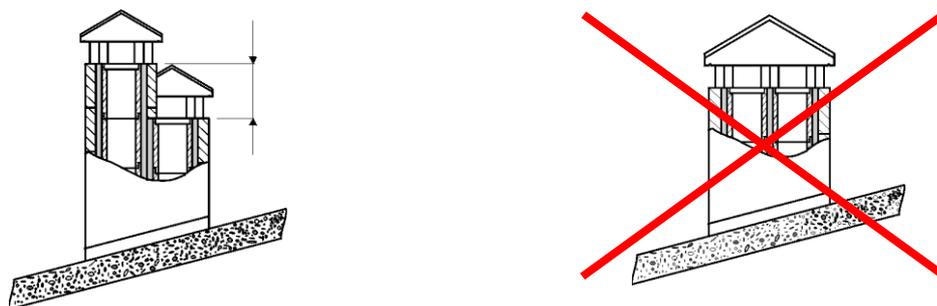

Figure 8. Construction of adjacent chimneys.
- in case of two adjacent chimneys, tip of one chimney ought to be located at least 50 cm above the other one, in order to avoid mutual interference of produced negative pressure (figure 8),